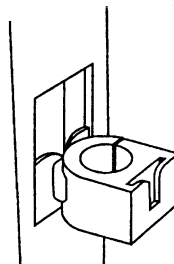

Figure 5 - Holder slot into right-hand side of meter
2. Gently slide the flange of the holder into the slot on the meter. Make sure the holder is secured properly into the slot. See figure 5.